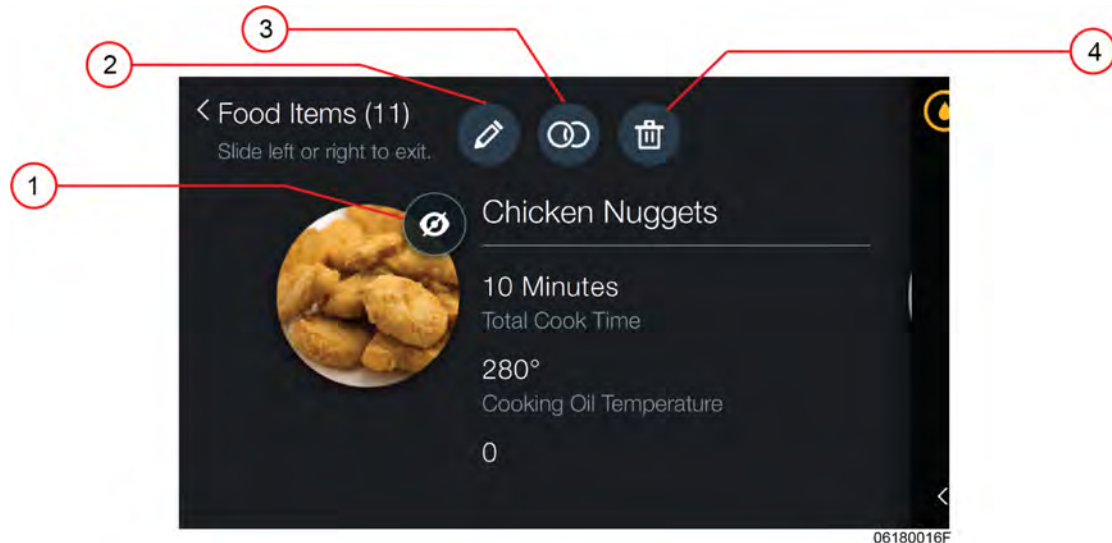

Figure 5-8 Managing food items
Manage food items allows you to copy, edit, or delete your food items. Tap **Manage Food Items** and your food items are displayed. Swipe left or right to view all food items as only three appear on the display at any given time. If the hidden icon is displayed on any of your food items, this item will not display when normal cooking resumes. Tap on a food item to edit, copy, or delete it, see Figure 5-8 Managing food items, page 44.
- 1) Select **Settings > Food Item Settings**, type the code 1,2,3,4 and then select **Manage Food Items**. Select the food item you would like to edit, then tap the edit icon, see Figure 5-8 Managing food items, page 44 for a description of icons.
- **Deleting a single food item** - Select **Settings > Food Item Settings**, type the code 1,2,3,4 and then select **Manage Food Items**. Tap a food item then tap the delete icon, see Figure 5-8 Managing food items, page 44 for a description of icons. **Are you sure you want to delete? Cancel or Delete** is displayed. Tap **Delete** to completely remove the food item from the control. Tap **Cancel** to go back to the previous step.
- **Deleting multiple food items at once**- Starting from the Food Item menu select **Settings > Manage Food Items**. Tap the delete icon in the lower left corner, then select all of the food items you would like to delete. A checkmark appears on each item you have selected. Once you have made your selections, tap the delete icon in the upper left corner, see Figure 5-8 Managing food items, page 44 for a description of icons. **Are you sure you want to delete? Cancel or Delete** is displayed. Tap **Delete** to completely remove the food item from the control. Tap **cancel** to go back to the previous step.